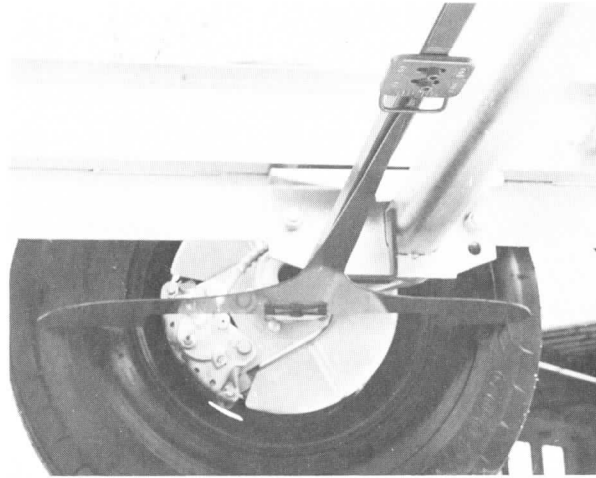

Fig. 17
6. If chalk mark occurred in step No. 2, it should be at the top or bottom, before toe-in checking. Grasp the gauge with one hand on each section holding it so that the pointer side of the gauge faces the floor, and the (L) shaped locaters are toward the front of the trailer. Pulling together on the two sections of the gauge, insert it between the left and right wheel, making sure that the (L) shaped locator is in contact with the rear of the axle tube. (See Fig. 17). The pointer feet must be parallel with the trailer frame. (See Fig. 17.)